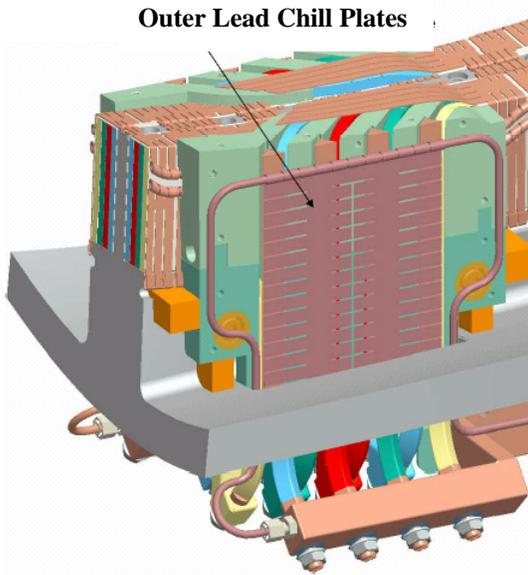

Figure 47- Outer Lead Area Chill Plate
- 6.45.1 To ensure that there are no interferences pre-fit the outer lead chill plate to the lead area. [Figure 47- Outer Lead Area Chill Plate]